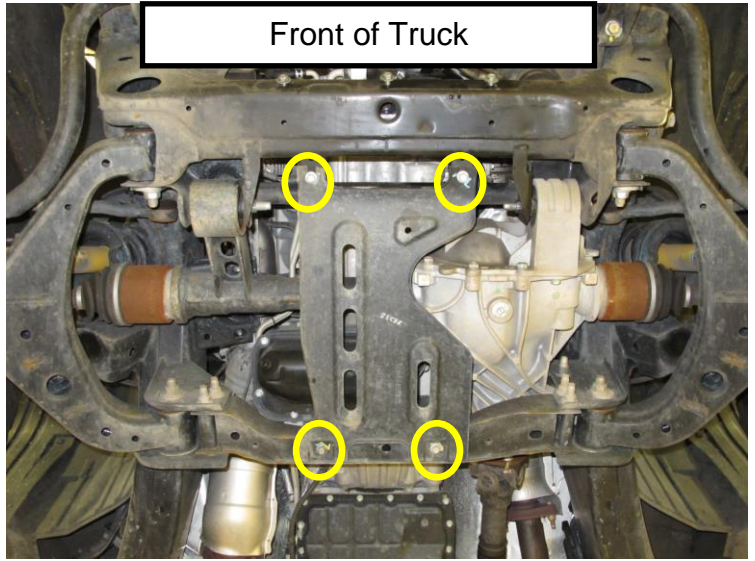

Figure 4
3. Remove engine under (Figure 4).
- Remove the (4) engine under cover bolts.